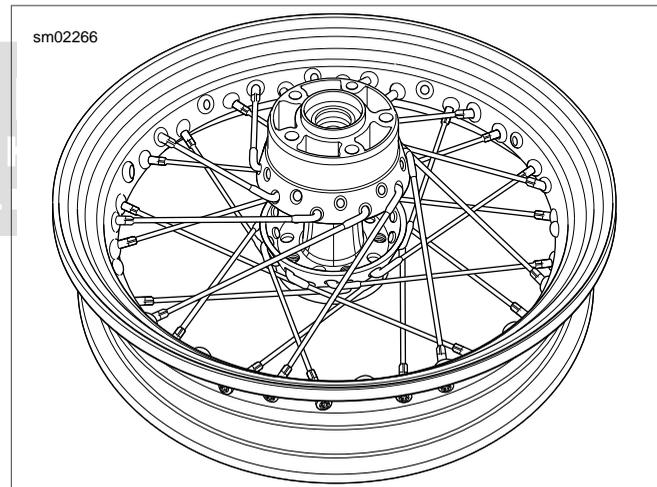

Figure 2-22. Sprocket Side Up: Bottom Row of Spokes Laced
- See Figure 2-22. Place remaining nine lower row spokes, angled clockwise, into hub and rim.